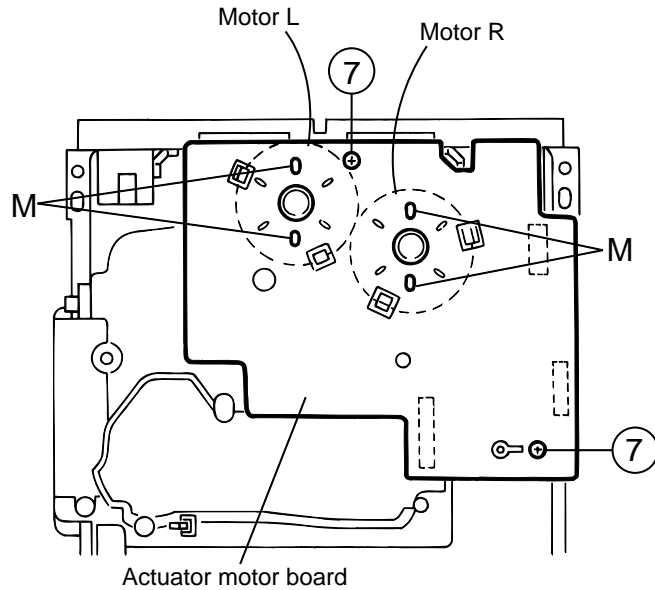

Fig.14
(See Fig.14, 15)**
1. Absorb the four soldered positions "M" of the right and left motors with a soldering absorber (See Fig.14).
2. Remove the two screws 7 retaining the actuator motor board (See Fig.14).